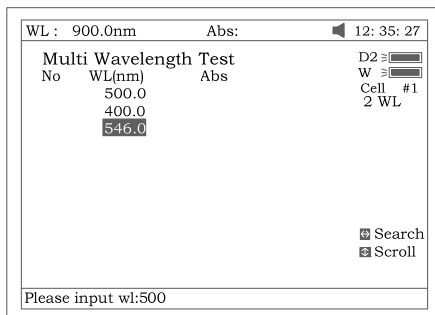

Fig 69
1. Press **[F1]** to setup a group of wavelengths for testing by pressing the numeric keypad followed by **[ENTER]**. **[^]** or **[V]** to modify the inputted data Fig 69. Press **[ESC/STOP]** to finish setup and exit.